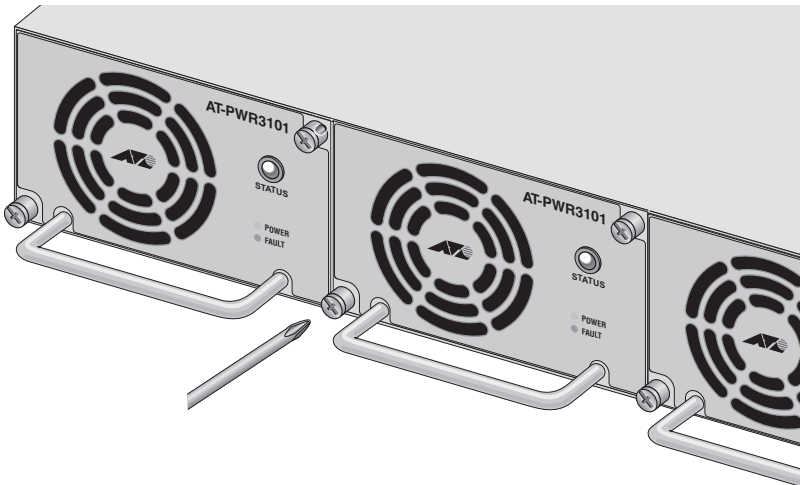

Figure 23. Loosening the Captive Screws on the AT-PWR3101 Module
2. Using a # 1 Phillips screwdriver, loosen the two captive screws that secure the failed AT-PWR3101 module in the AT-RPS3104 system (see Figure 23).